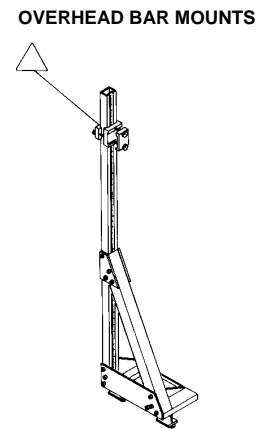

Figure 6
13. Adjust overhead bar mountings on vertical legs to setting inside this symbol . (See Figure 6.) For example: .